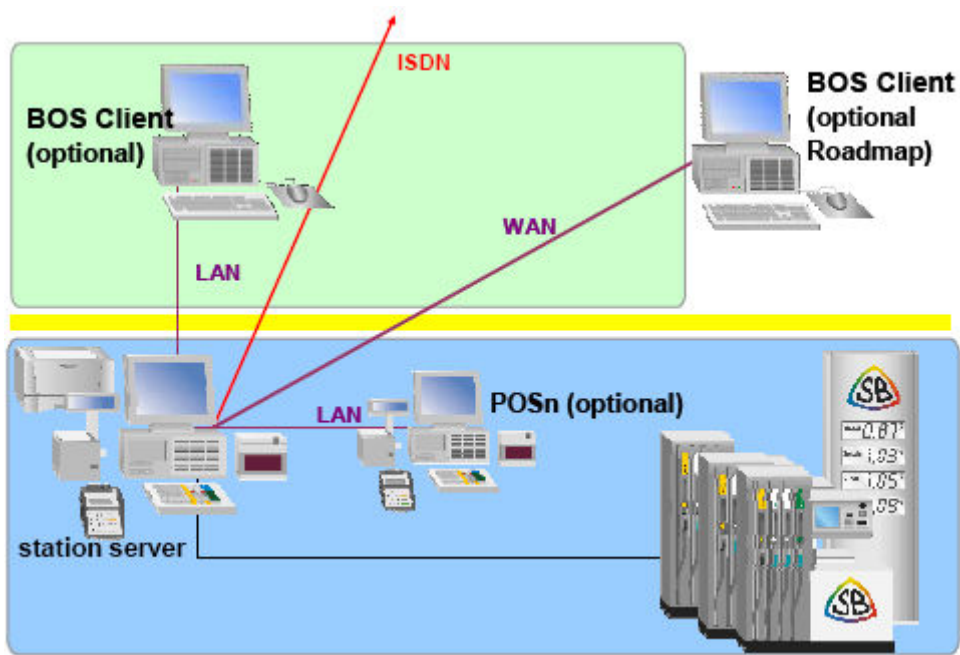

Figure 1 POS / Station server configuration
- Figure 1 POS / Station server configuration